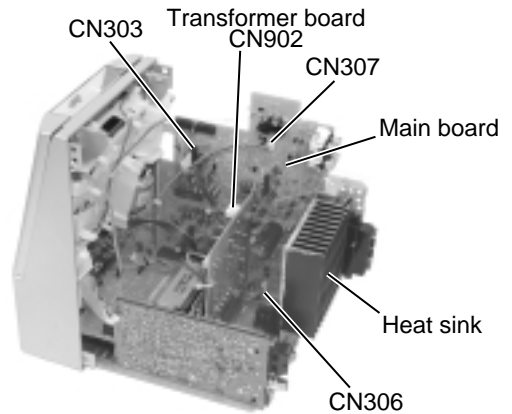

Fig.7
**■ Removing the main board / the heat sink (See Fig.7 to 9)**